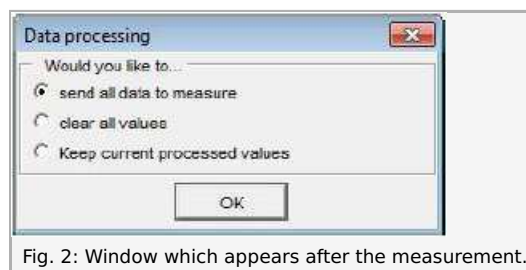

Fig. 2: Window which appears after the measurement.
- Attach the burette to the support rod of the magnetic stirrer and fill it with 0.1 molar cerium(IV) sulphate solution.
- Add the cerium(IV) sulphate solution until a total of 20 ml has been added.
- Send all data to "measure" (see Fig. 2).